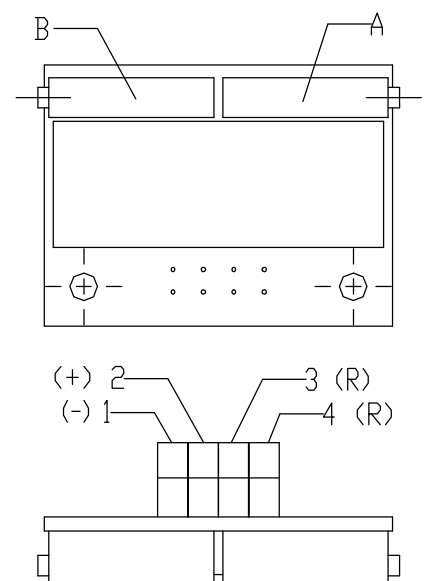

Fig.5
3.3.1 EPV – the 2-wire version (Fig. 5)
- Adjust the resistive transmitter according to the previous chapter. The resistance is to be metered on the terminals R-R (Fig. 5). The used transmitter resistance is 100 Ω.
- Turn the adjusting trimmer A (Fig. 5) to adjust the output current signal rate measured on the terminals 81-82 to 4 mA.
- Turn the adjusting trimmer B (Fig. 5) to adjust the output current signal rate measured on the terminals 81-82 to 20 mA.